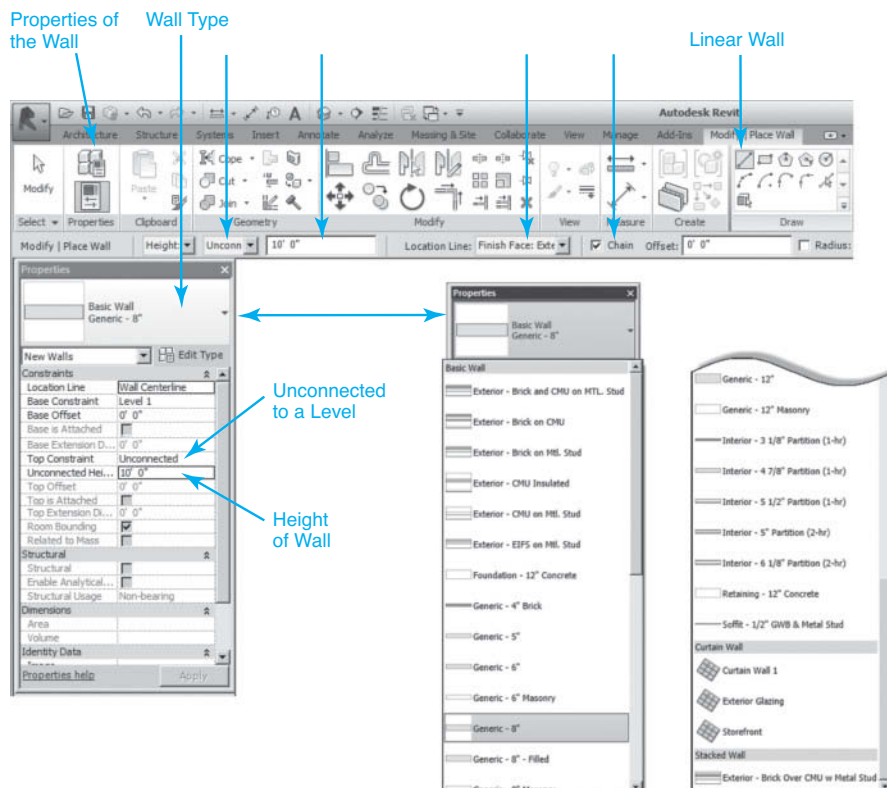

Figure 3-3
9. Set the **Location Line** to **Finish Face: Exterior**, and check the **Chain** check box (see Figure 3-3).